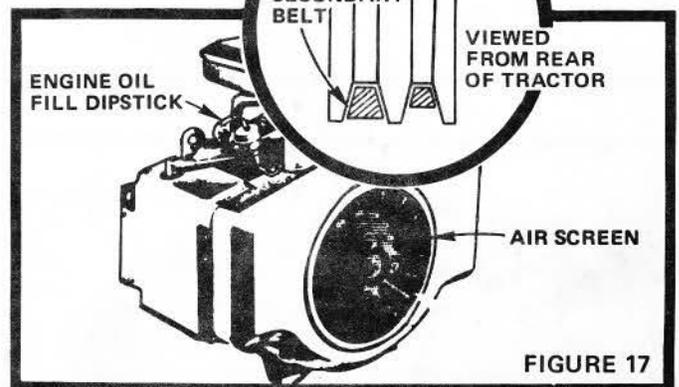

FIGURE 17
- Refill Engine Oil (Fig. 17). In summer use S.A.E. 30 (SC, SD, SE or SF) Oil. In winter (below 32°F.) use S.A.E. 10W30 (SC, SD, SE or SF). In extreme cold (below 0°F.) use S.A.E. 5W20 (SC, SD, SE or SF). DO NOT USE 10W40 OIL. Refill capacity is 3 pints. NOTE: DO NOT OVERFILL.
Air Screen (Fig. 17) must be kept free of dirt and chaff to prevent Engine damage from overheating.
Several minutes after stopping Engine, check Engine Oil Level with Tractor on level ground. Wipe dipstick (Fig. 17) clean, push it down tight for a few seconds, remove and read Oil Level. If necessary, add Oil until "FULL" mark is reached. In summer use S.A.E. 30 (SC, SD, SE or SF) Oil. In winter (below 32°F.) use S.A.E. 10W30 (SC, SD, SE or SF). In extreme cold (below 0°F.) use S.A.E. 5W20 (SC, SD, SE or SF). DO NOT USE 10W40 OIL. NOTE: DO NOT OVERFILL.